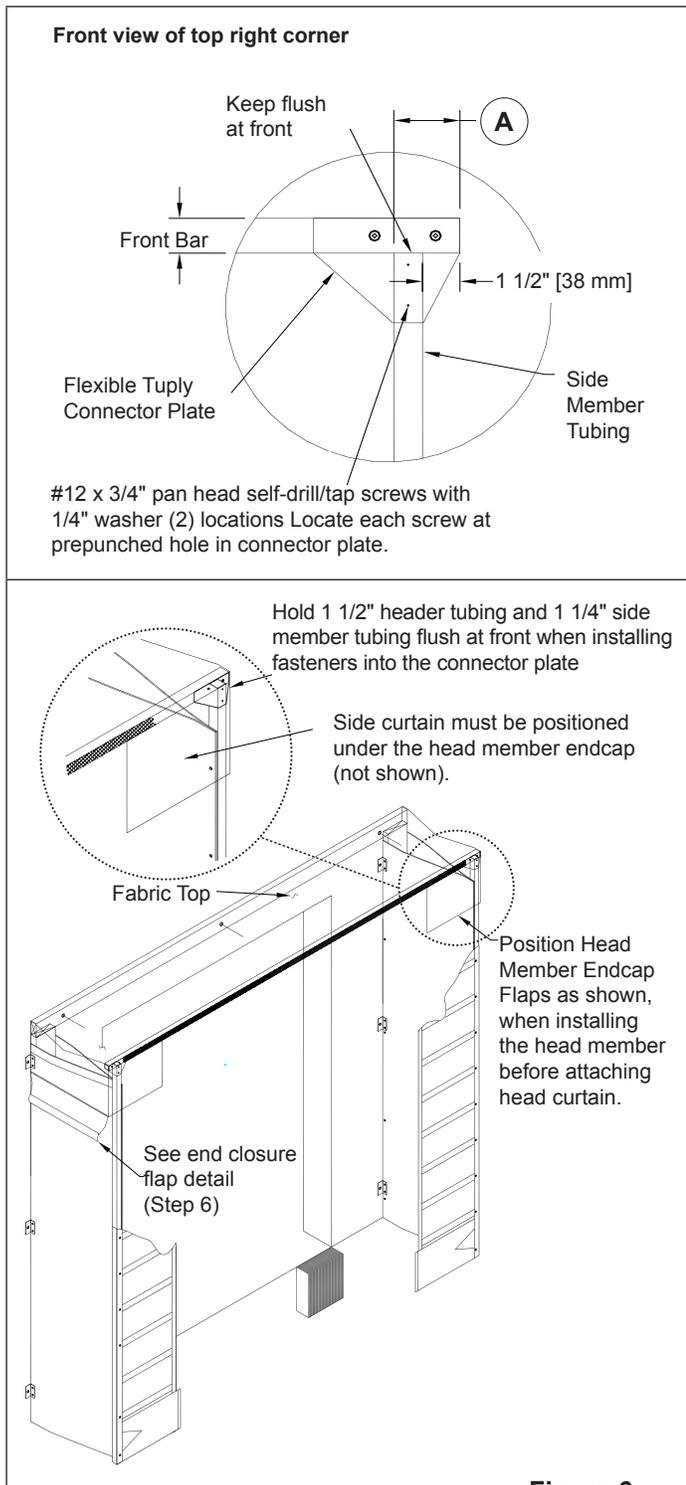

Figure 6
Side member tubing must be located at 2 3/4" [70 mm] from end of header front bar tubing (A). Header and side member tubing to be flush to each other at the front side (Figure 6).